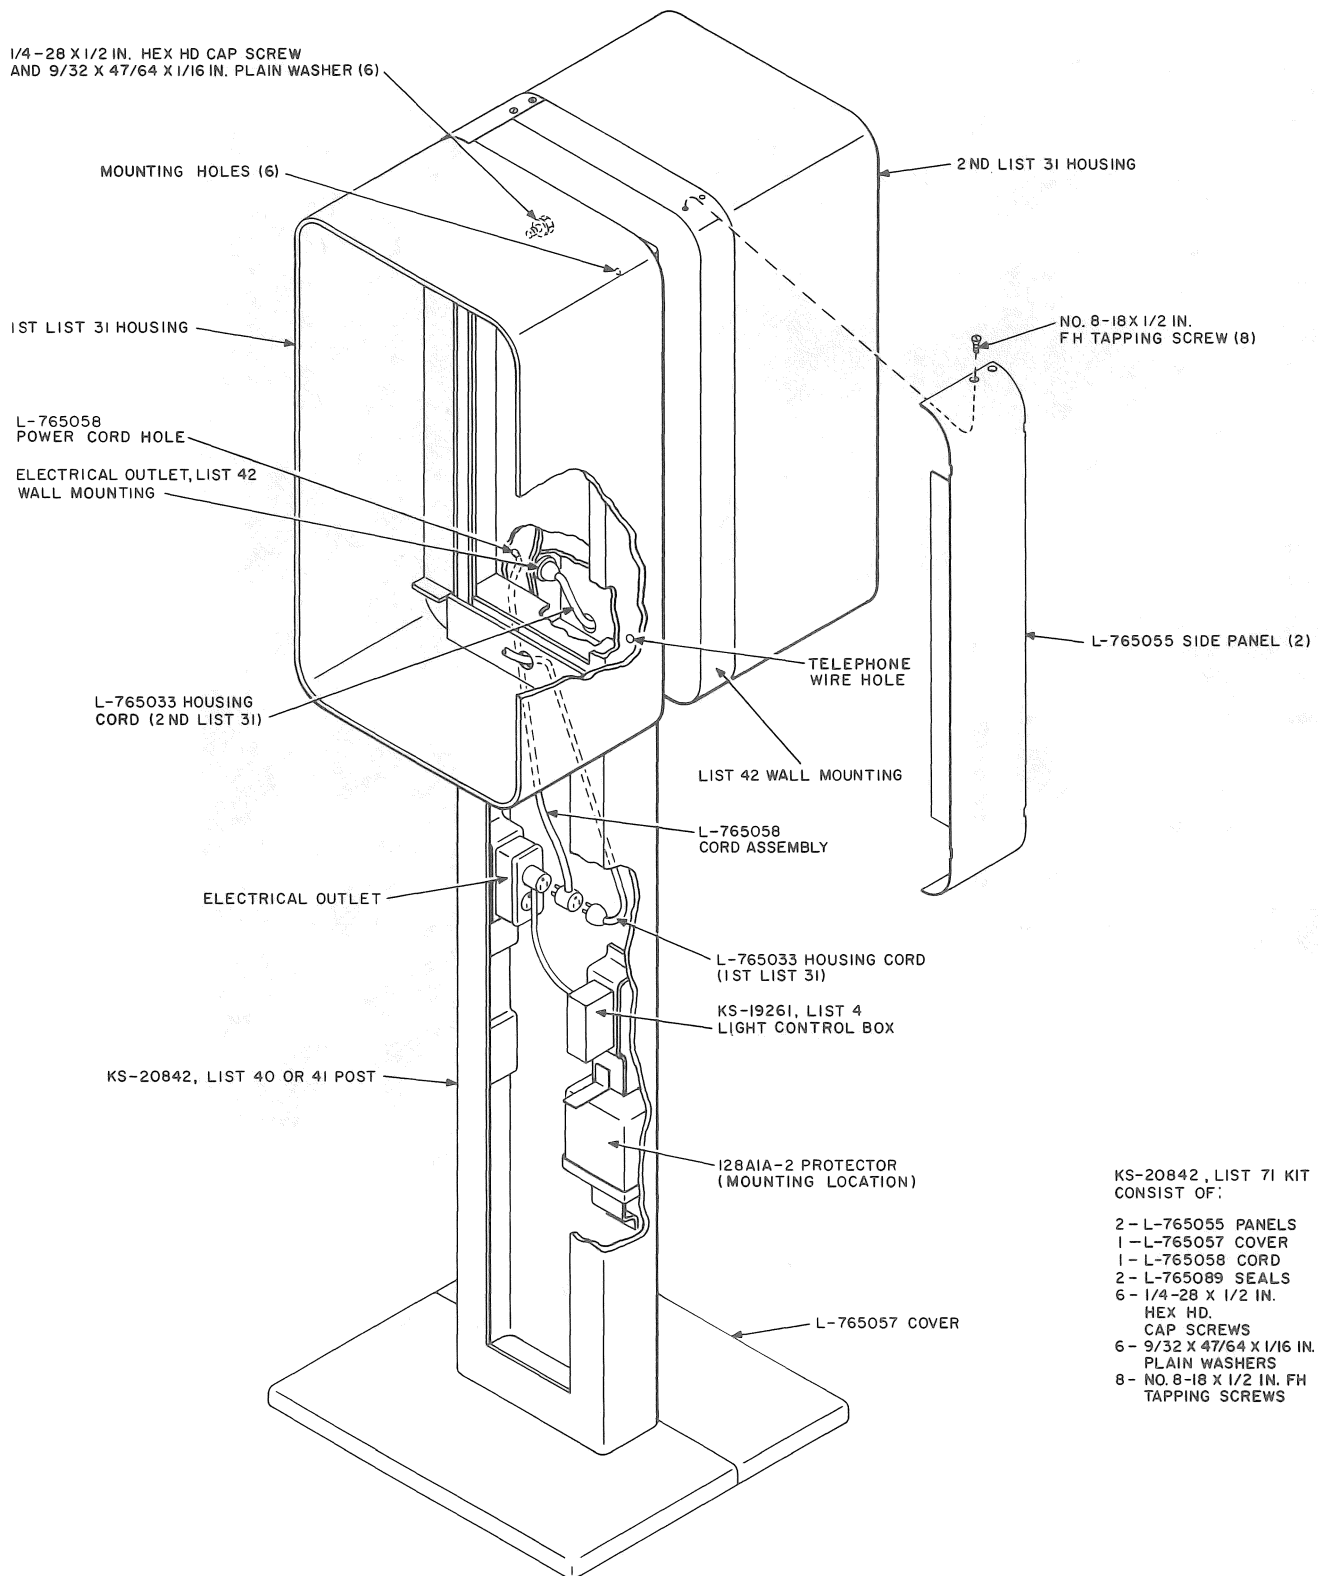

Fig. 21—KS-19261, List 4 Light Control Unit Installed With Two List 31 Housings
3.08 When the List 31 housings are installed back-to-back (Fig. 21), install the light control unit as follows:
- (b) Install the light control in the first station as described in 3.07, except for the first station housing cord which plugs into back of L-765058 cord assembly (Fig. 21) instead of plug on light control cord.